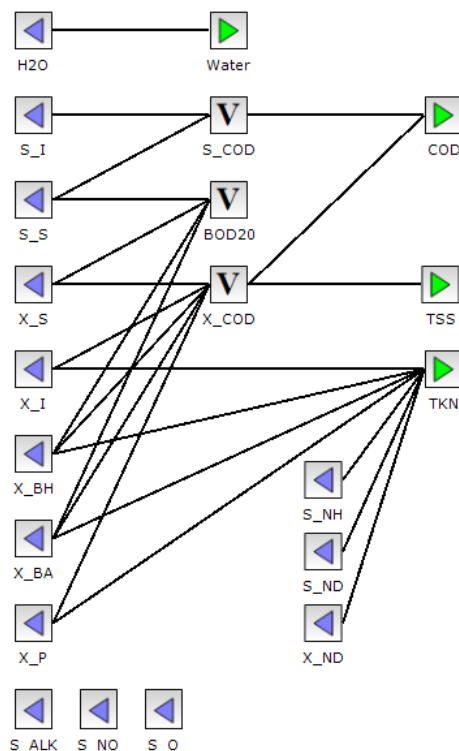

Figure 4.5 Default ASM1 de-fractionation layout
- **Defractionation:** load the WEST.ASM1.Output.Layout.xml fractionation layout (Figure 4.5)